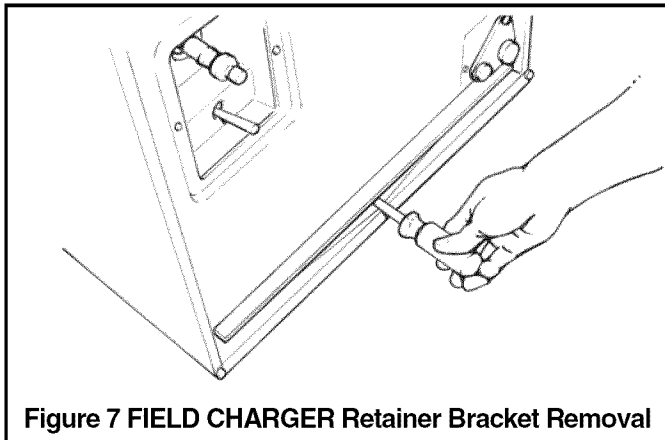

Figure 7 FIELD CHARGER Retainer Bracket Removal
- Use a 5/16" nutdriver to remove the screws holding the FIELD CHARGER retainer and take out both. Slightly lift the FIELD CHARGER and carefully remove. Set aside in a safe place until the unit is set in place and ready to start up. See Figures 7 and 8.
- b. Use a 5/16" nutdriver to remove the screw in the FIELD CHARGER retainer and take out both. Slightly lift the FIELD CHARGER and carefully remove. Set aside in a safe place until the unit is set in place and ready to start up. See Figures 7 and 8.
- b. Use a 5/16" nutdriver to remove the screws in the FIELD CHARGER retainer and take out both. Slightly lift the FIELD CHARGER and carefully remove. Set aside in a safe place until the unit is set in place and ready to start up. See Figures 7 and 8.
- b. Use a 5/16" nutdriver to remove the screws holding the FIELD CHARGER retainer and take out both. Slightly lift the FIELD CHARGER and carefully remove. Set aside in a safe place until the unit is set in place and ready to start up. See Figures 7 and 8.